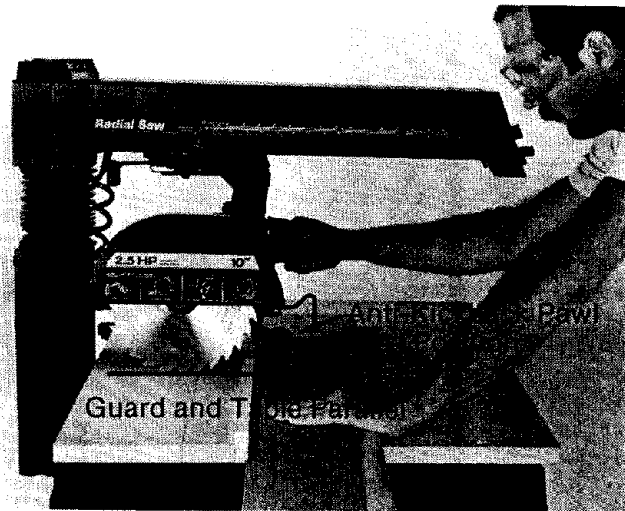

Fig. 90 Crosscut Blade Guard and Body Position
**WARNING:** To reduce the risk of contact with the upper half of the blade and keep the workpiece from jamming in the guard, set the blade guard in the horizontal position. Fig. 90.
**⚠ WARNING:** The blade guard must be horizontal to provide protection from contact with the upper half of the blade and avoid the workpiece being jammed in the blade. Set the blade guard in the horizontal position. Fig. 90.